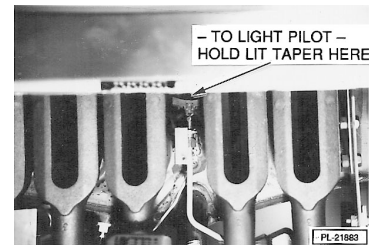

Fig. 3
4. While still depressing arm, light the pilot with a lit taper (Fig. 3). Continue with Steps 2, 3, and 4 until pilot remains lit when extension arm is released.